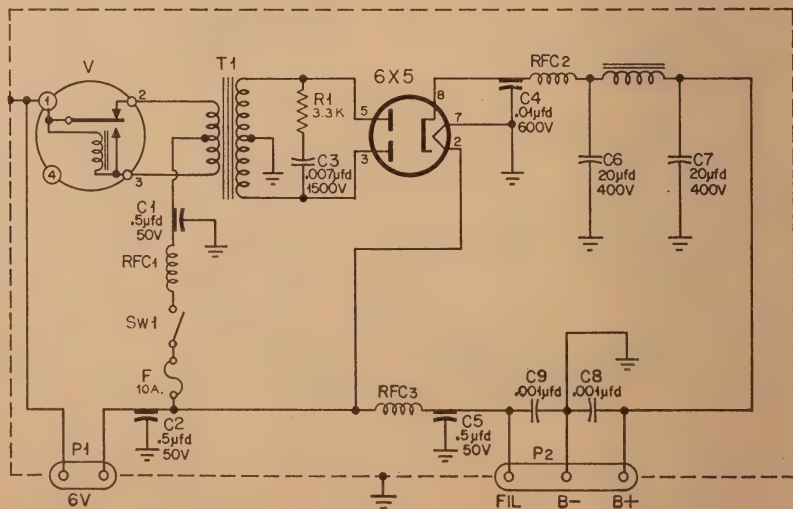

Fig. 1. Wiring schematic of a non-synchronous vibrator power supply. Note that the entire unit must be thoroughly shielded for maximum "hash" suppression.
Two types of vibrators are in common use. The simplest is the non-synchronous type, illustrated in *Figure 1*. Upon application of battery
A schematic of such a supply is shown in Figure 1. The operating characteristics of a typical vibrator supply (Mallory VP-552) are shown in Figure 4.
1. In a typical vibrator supply, such as shown in Fig. 1, only half the transformer is in use at any one time. It is possible to make full use of the transformer by using the half-wave doubler circuit shown in Fig. 5. The secondary winding of such a transformer requires only 70% of the space required for the equivalent output from a center tapped full wave secondary winding.